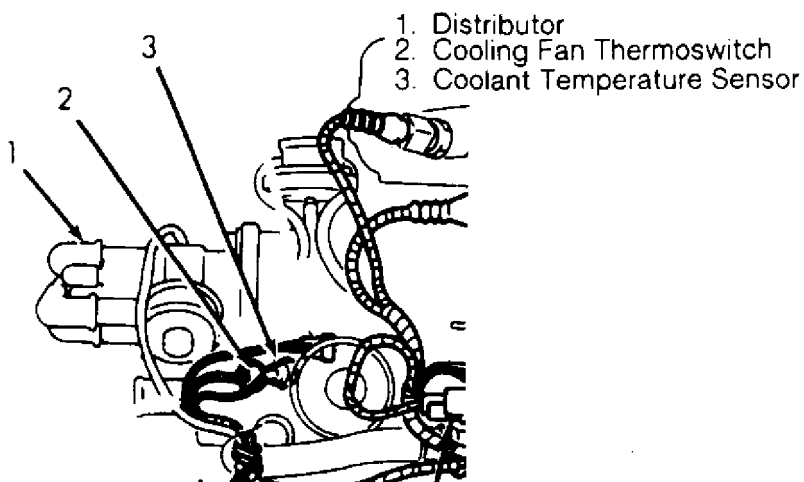

Fig. 1: Locating Cooling Fan Thermostat
2) Disconnect cooling fan thermostwitch, located near distributor. See Fig. 1. If cooling fan stops running, replace cooling fan thermostwitch. If cooling fan continues to operate after cooling fan thermostwitch is disconnected, check for short to voltage in Blue wire between cooling fan thermostwitch and cooling fan motor relay. If cooling fan still runs, check Blue/Red wire between cooling fan relay and cooling fan for short to voltage.